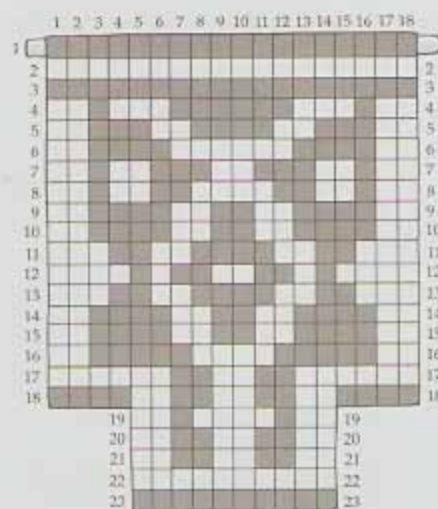

Fig. 2
3. Now is the time to get acquainted with the Graph (see Figure 2). Each of the white squares is a Vertical Double Half Hitch (**VDHH**) and each of the darker squares is a Horizontal Double Half Hitch (**DHH**). The **VDHHs** will reveal the color of the Runner Cord and the **DHHs** will reveal the color of the vertical warp cords. Place the graph nearby where you can easily read it. Put a ruler (or a piece of cardboard) under the second row. It's important to pay very close attention to the pattern as you go along and move the ruler down as you finish each row.